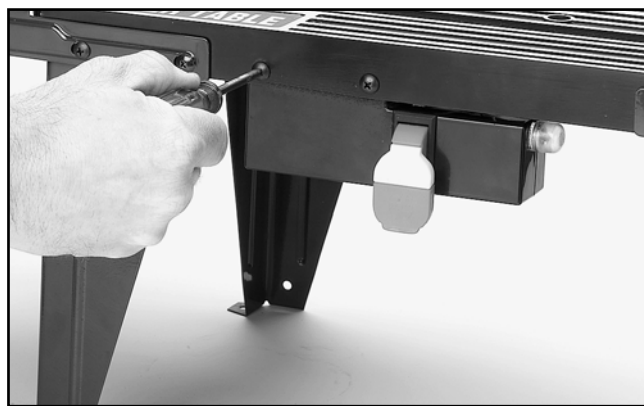

Figure 15. Securing the power switch to the main table.
1. Secure the power switch to the main table with the supplied #10-32 x $\frac{3}{4}$ " truss head phillips screws and the #10-32 keps nuts as shown in **Figure 15**. *Note—The power switch mounting bracket should be on the inside of the main table edge.*